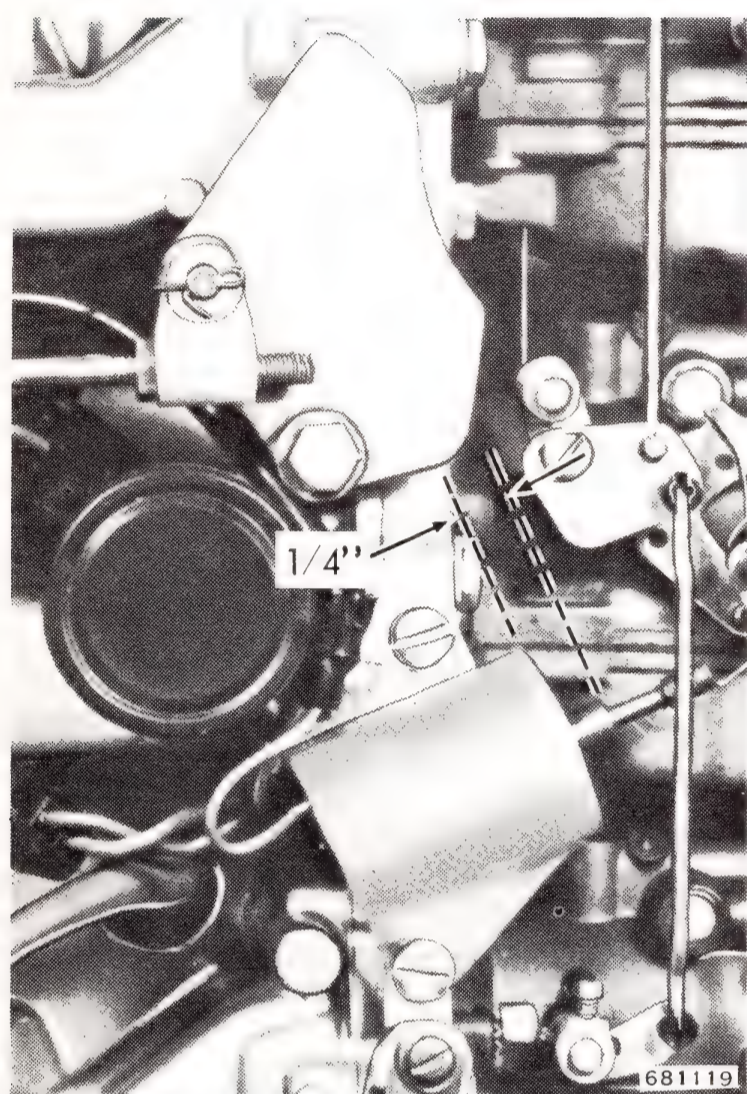

Figure 3-19. Adjusting Solenoid
a. Attach solenoid to intake manifold with clamp and two screws. For proper adjustment, see Figure 3-19.